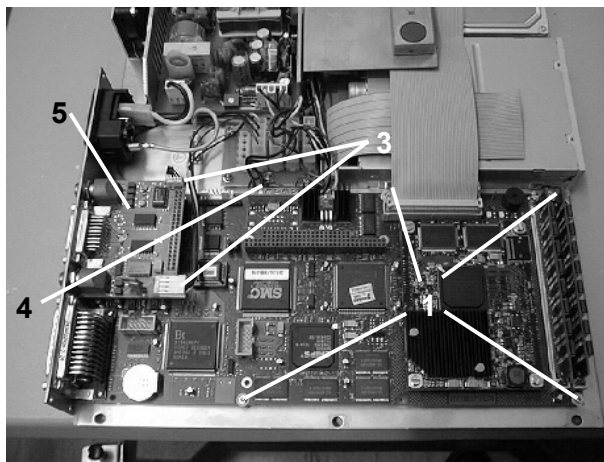
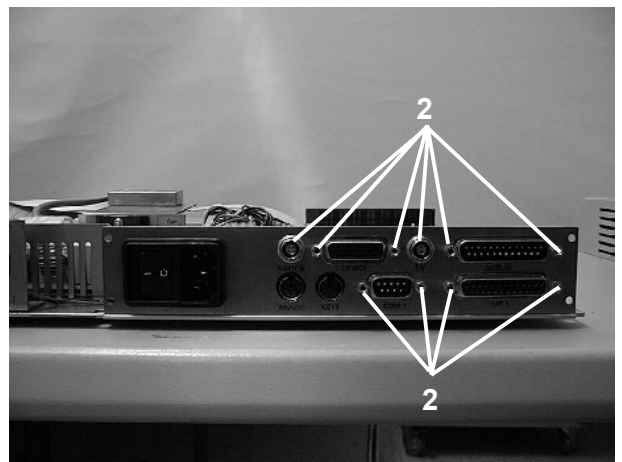

Fig. 24a
Fig. 24b
- Remove nuts ((1) Fig. 24a), as well as bolts and nuts ((2) Fig. 24b).
- Disconnect plug-in connections ((3) Fig. 24a) and disconnect cables ((4) Fig. 24a). Make a mental note of the correct connections (polarity).
- Remove the PCBs and pull off GIF IOL PCB ((5) Fig. 24a).
- Plug in GIF IOL PCB ((5) Fig. 24a), insert the PCBs and tighten nuts ((1) Fig. 24a) as well as bolts and nuts ((2) Fig. 24b).
- Re-establish plug-in connections ((3) Fig. 24a) and re-connect cables ((4) Fig. 24a).